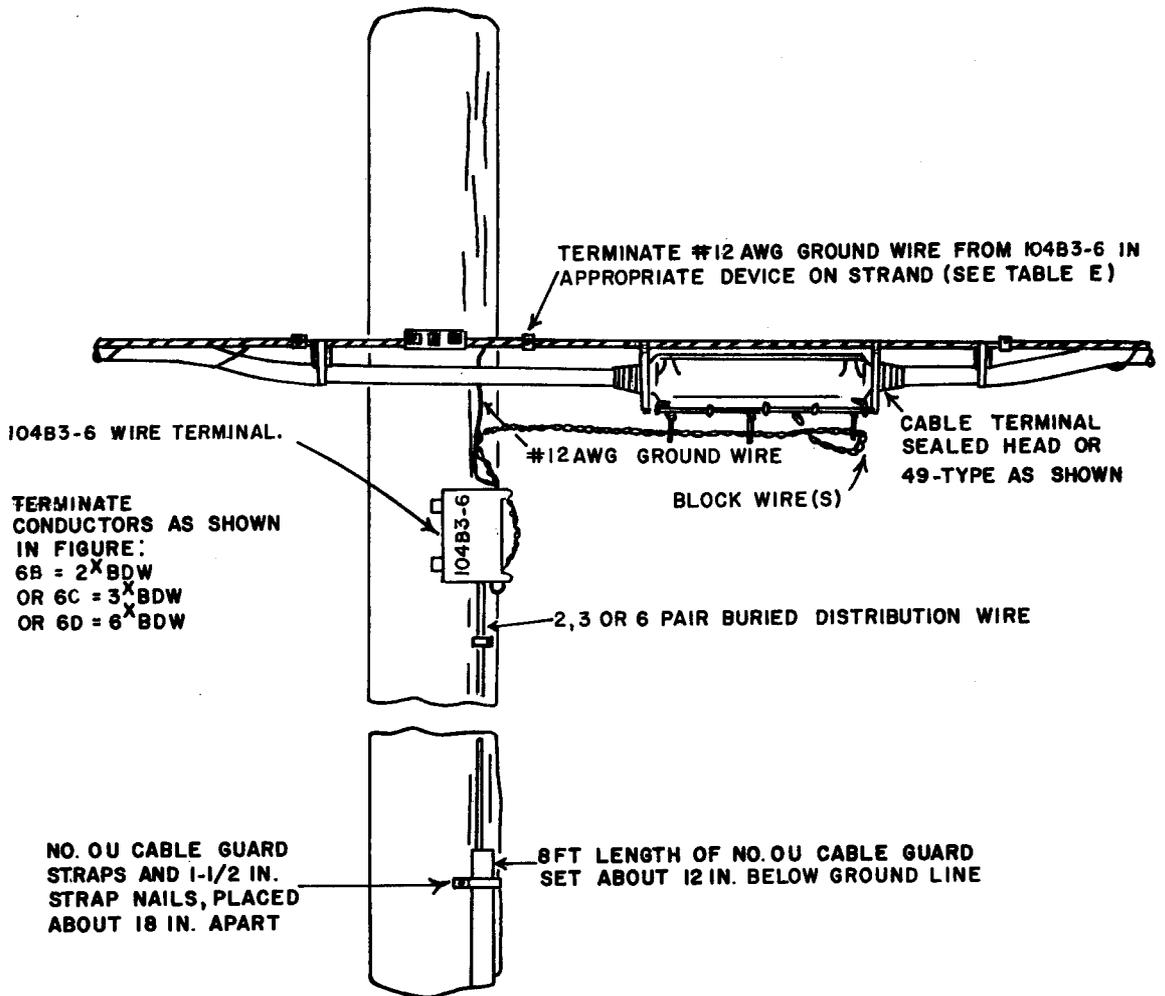

FIG.5 TERMINATION AT JUNCTION WITH AERIAL CABLE
- 6.01 The 104B3-6 Wire Terminal shall be the standard housing utilized at the pole when the Buried Distribution Wires will be fed from aerial plant. See Figure 5.
- 6.03 Shield continuity of the BDW shall be carried thru to the cable strand using #12 AWG Ground Wire. One end of the #12 AWG wire shall be terminated on the top ground terminal lug of the block within the 104B3-6 Wire Terminal. See Figure 5. The other end of the #12 AWG Ground Wire is run up the pole and terminated to the strand using the appropriate device. See Table E.
- 6.10 Place the #0 U Guard over the wire at the bottom of the pole as shown in Figure 5.
- 6.20 Cross connect between the 104B3-6 and the cable terminal using block wire. See Figure 5 for the completed installation.